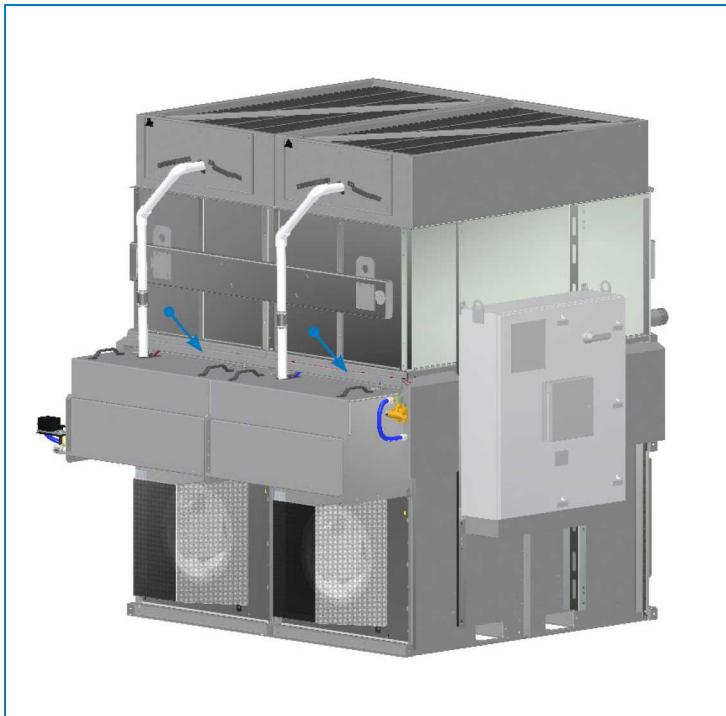

Fig. 19 Install wire cover
10. Install the wire cover panel at the top of the spray water basin. See figure 19. Install the cover panel at the back and side. See figure 11 and 12. Finally install the cover panels around the iPilot™ Control System panel, see figure 14.